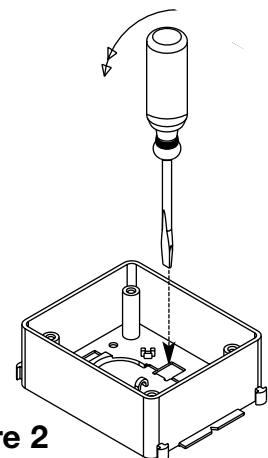

Figure 2
Step 3. Remove knockout: (See Figure 2):